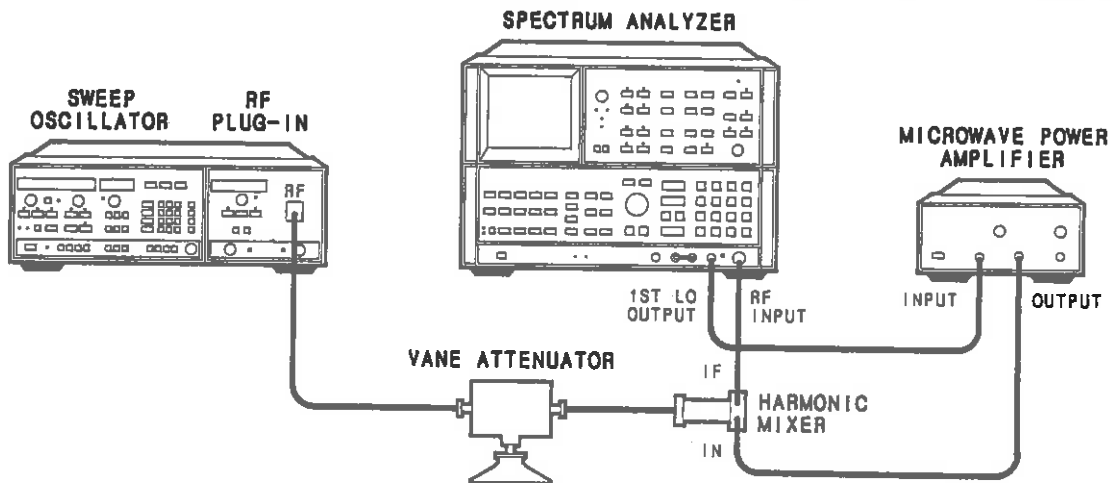

Figure 4-14. AM ON/OFF Ratio and Square Wave Symmetry Test Setup
1. Connect the equipment as shown in figure 4-14. Set the vane attenuator to 20 dB.